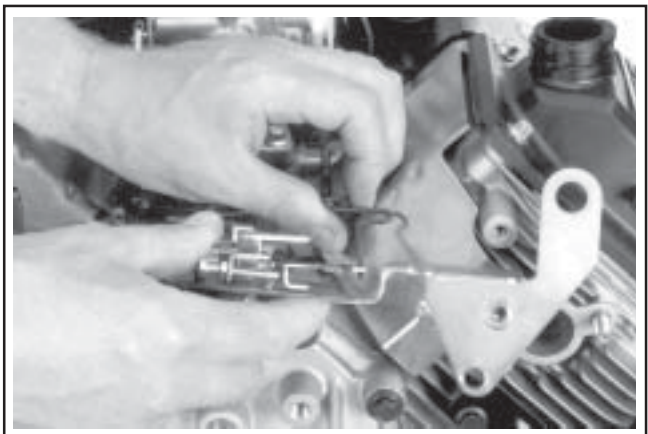

Figure 9-24. Disconnecting Choke Linkage from Actuator Lever.
3. Remove the choke linkage from the choke actuator lever and carburetor. See Figure 9-24.